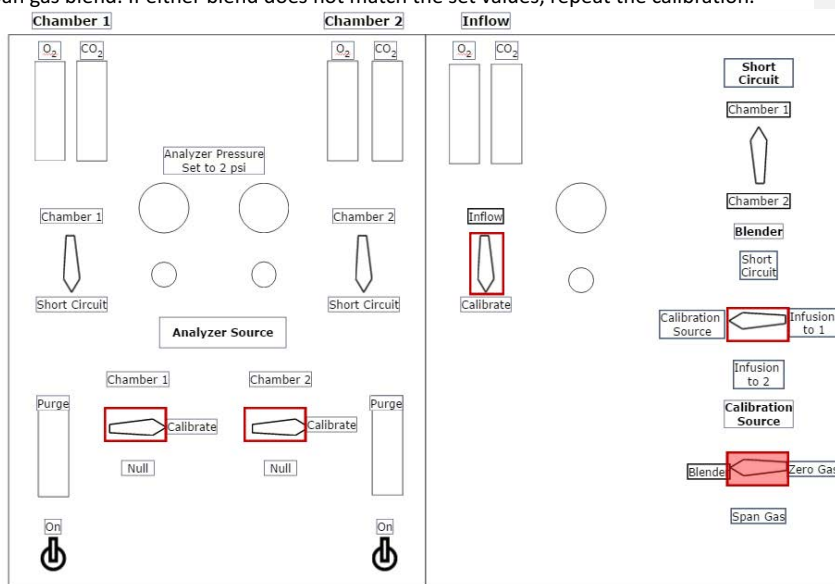

Figure 3. Panel Layout for Blender Calibration
2. Flip Instrumentation Panel valves to match those shown in Figure 3. Flip blender valves for calibration.
4. Once the gas is flowing, watch the O₂ (A) and CO₂ (B) graphs until the values are steady. Turn Averaging on, and let blender run for at least an hour.
5. After hour is complete, press the "Set Zero" button (D).
6. After the values are stored, enter the calibration tank's gas concentrations in their respective entry boxes in the "Cal Gas" column (C) (i.e. if a calibration gas consisting of a blend of 21.02 %O₂ and 0 %CO₂ is flowing into the analyzers, 21.02 would be entered in the "Cal Gas" column for the O₂ analyzers and 0 would be entered for the CO₂ analyzers). Default tank values can be changed on the Preferences screen.
8. Select radio buttons (F) for each analyzer you would like to calibrate. Buttons will turn blue if calculations will be performed for that analyzer.
9. After zero and span values have been stored, press "Calculate" (G). New slopes and offsets are calculated, but not applied to analyzer gas values.
10. If slopes and offsets are acceptable, press "Apply" (H). New slopes and offsets are saved to the configuration file.